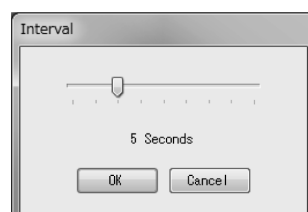

Fig.19
- ② Click  button on the tool bar or "Chart and Recording" - "Interval" from menu. Then a window as shown in Fig. 19 appears, enabling setting of update interval of chart display and logging interval. Select the preferred interval from "1 Second", "3 Seconds", "5 Seconds", "10 Seconds", "30 Seconds", "1 Minute", "5 Minutes", "10 Minutes", and "1 Hour" and click "OK".